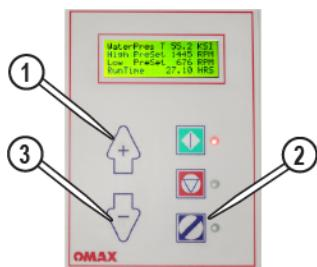

Figure 49
2. To decrease the high-pressure value, press the **down arrow/minus button** [3] on the **pump keypad** (Figure 49).
3. Set the Low PreSet rpm value by pressing and holding the **Reset key** [2] on the **pump keypad** while also pressing the **up arrow/plus button** or **down arrow/minus button** (Figure 49).